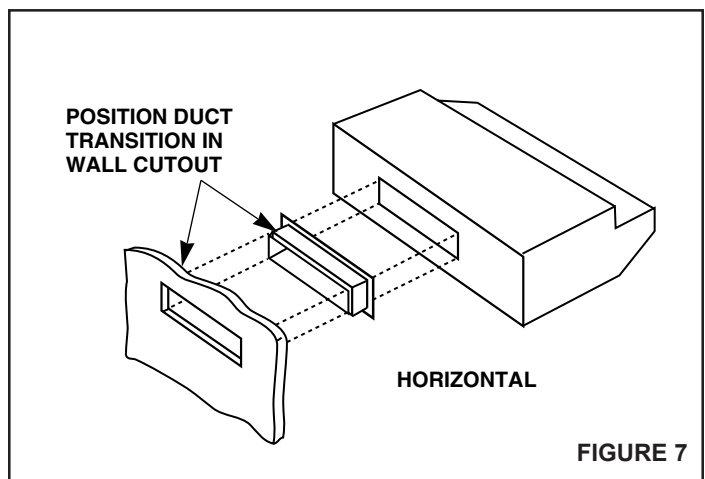

FIGURE 7
- For 3 1/4" x 10" horizontal discharge installation, refer to FIGURE 7.** If using supplied 3 1/4" x 10" duct transition, secure it to the range hood. Ensure that the damper flap operates fully and freely. If it does not, remove the damper flap or make necessary modifications to the installation to insure full and free operation of the damper flap.
4. Align hood's keyhole mounting slots over the four (4) partially installed screws.